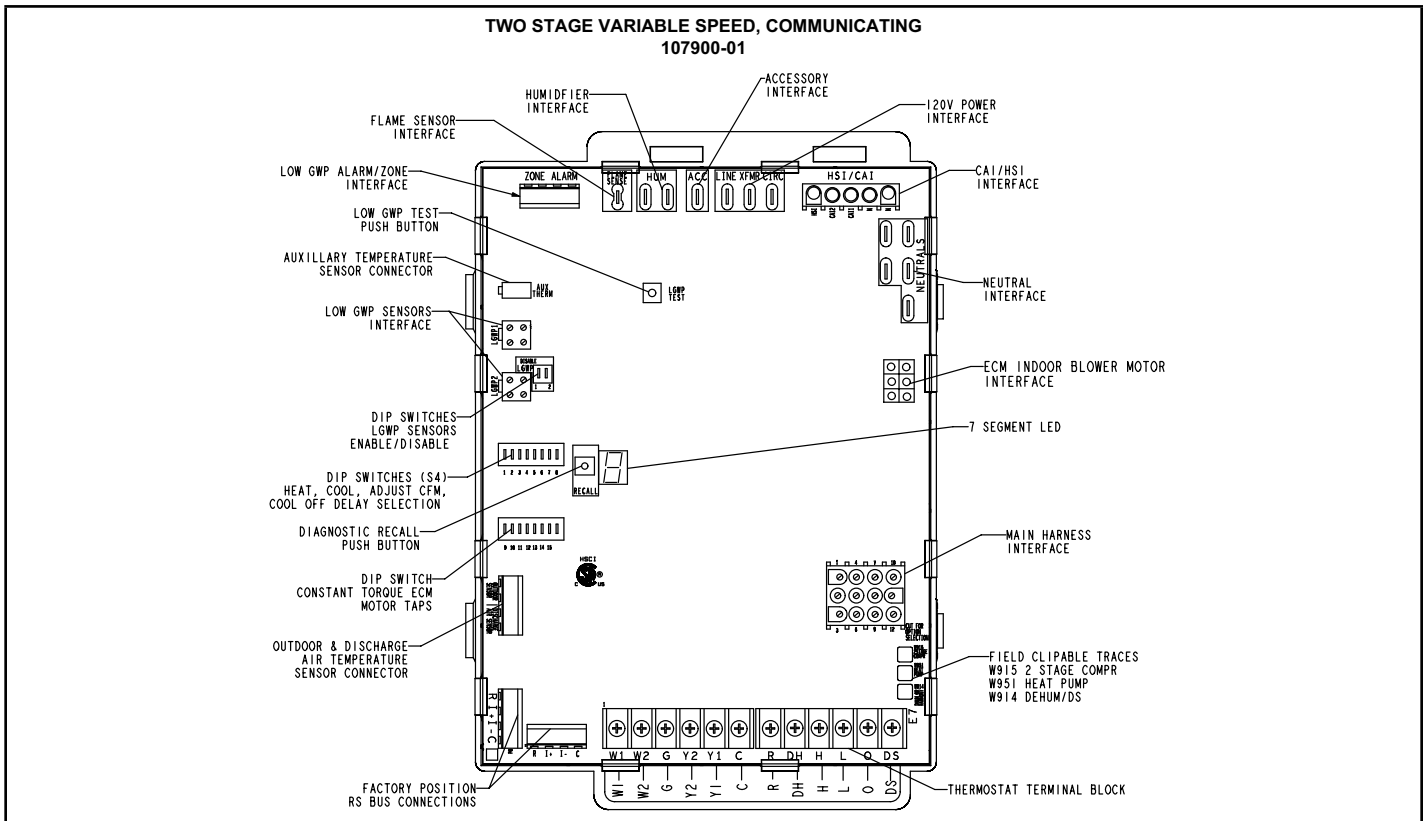

Figure 32
7. One line voltage "ACC" 1/4" spade terminal is provided on the furnace integrated control. Any electronic air cleaner or other accessory rated up to one amp can be connected to this terminal with the neutral leg of the circuit being connected to one of the provided neutral terminals. See Figure 32 for control configuration. This terminal is energized when the indoor blower is operating.